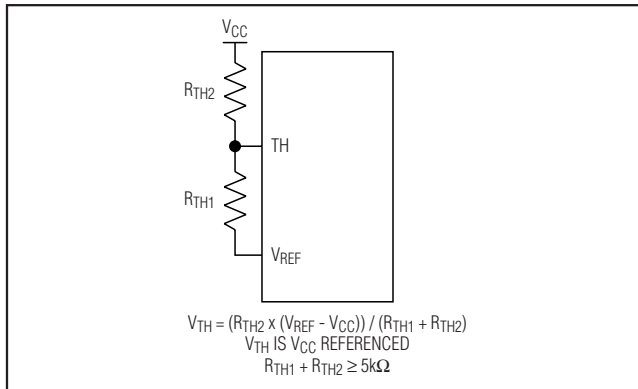
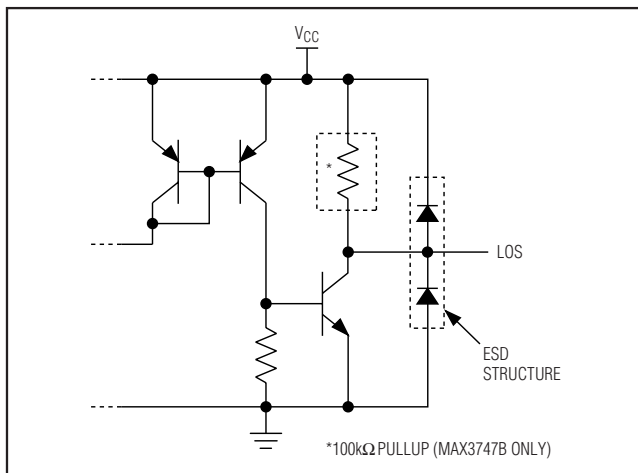

Figure 5. MAX3747/MAX3747A/MAX3747B LOS Threshold Circuit
Figure 6. MAX3747/MAX3747A/MAX3747B LOS Output Circuit
**Note 10:**  $V_{TH}$  is the voltage at pin 5 referenced to  $V_{CC}$  (see Figure 5).
The MAX3747/MAX3747A/MAX3747B are equipped with LOS circuitry that indicates when the input signal is below a programmable threshold, set by a voltage on the TH pin (see the *Typical Operating Characteristics*). The voltage on the TH pin is set by two resistors, one connecting from the TH pin to VCC and the other connecting from TH to VREF (Figure 5). An RMS power detector compares the input signal amplitude with this threshold and feeds the signal-detect information to the LOS output, which is open collector. To prevent LOS chatter in the region of the programmed threshold, approximately 2dB of hysteresis is built into the LOS assert/deassert function. Once asserted, LOS is not deasserted until the input amplitude rises to the required level. Figure 6 shows the LOS output circuit.
Program the LOS assert threshold according to Figure 5. The combination of RTH1 and RTH2 should be greater than or equal to 5kΩ, see the Assert/Deassert vs. VTH graph in the *Typical Operating Characteristics*.